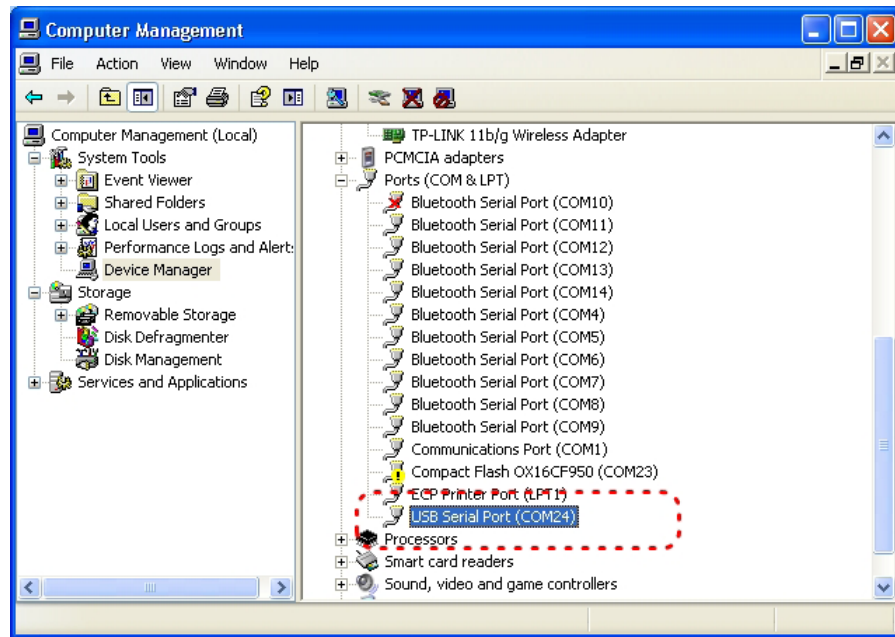

Figure 3.
**If using a USB Adapter**, the list of ports will be updated to reflect the new device. The LA GARD USB Interface Adapter can be identified in the list as **USB Serial Adapter**. The virtual COM Port assigned to the USB port where the Adapter is currently installed will follow the device description (Figure 3).
- If the COM port has been incorrectly set, return to the setup window (Figure 3), and select the correct COM port.